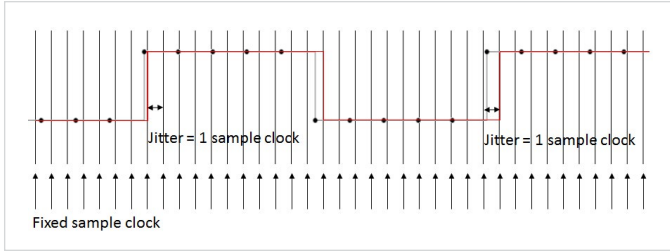

Figure 8. Basic/DDS mode with jitter of one sample clock
**Figure 8** shows an example of this kind of event. At the first rising edge, the sample with high level catches the sample clock, but the next sample at the next rising edge doesn't, so it is delayed to the next sample clock to output. So, over a longer timeframe, the rising edges shift between two consecutive sample clocks, which introduces the jitter/phase noise.